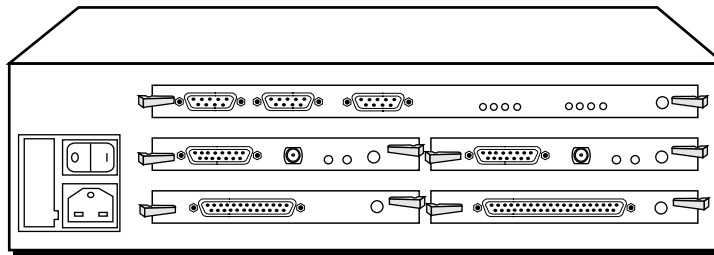

Figure 2-4 HSS RS-449 Module Board Installed
- 3 Check that the connector/LED panel of the newly inserted module is flush with the NETBuilder II chassis, and is aligned with the connector/LED panel(s) of any other installed module(s) to verify that the board is seated correctly (see Figure 2-4).